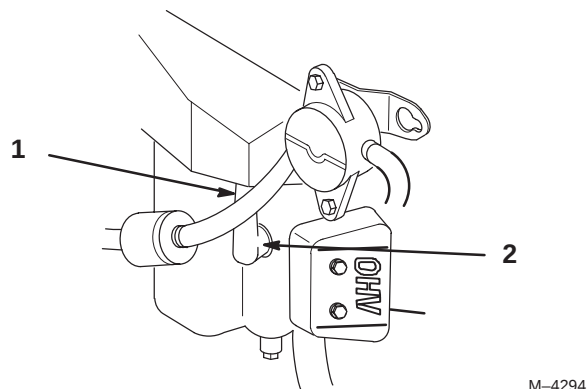

Figure 43
2. Pull the wires off the spark plugs (Fig. 43). Now clean around the spark plugs to prevent dirt from falling into the engine and potentially causing damage.
3. Push the wires onto the spark plugs (Fig. 43).